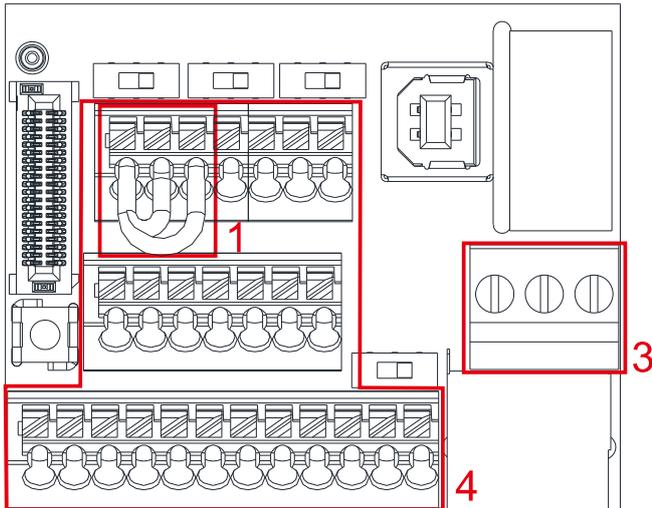

Figure 6-6 Control Terminal Distribution Diagram
1. The factory default is +24 V_{DC} / S1 / S2 short-circuited by jumper, as shown in Area 1 in Figure 6-6. Refer to Figure 4-2 in Chapter 4 WIRING for details.
3. The RELAY terminal uses the PCB terminal block (as shown in Area 3 in Figure 6-6):
4. The Control terminal uses the push-in spring terminal block (as shown in Area 4 in Figure 6-6):